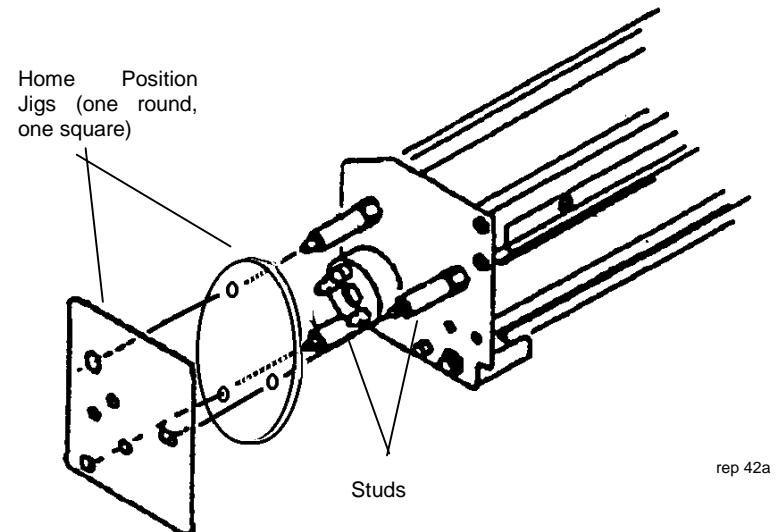

Figure 2. Positioning the Home Position Jigs
6. (Figure 2): Install the disk-shaped home Position Jig onto the studs at the end of the Cutter Assembly.
7. (Figure 2): Install the square-shaped home Position Jig onto the studs at the end of the Cutter Assembly.